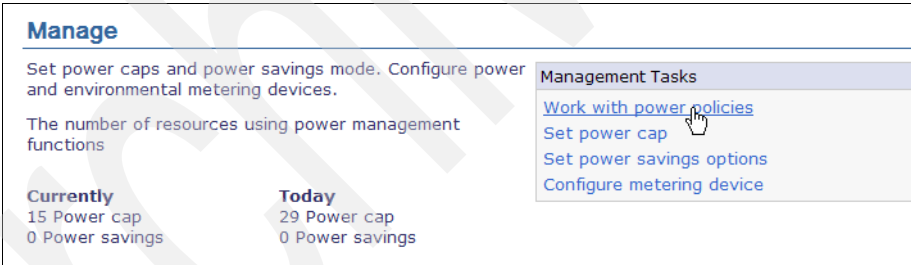

Figure 7-53 Applying a policy - 1
1. On the Active Energy Manager home page, click **Work with power policies** in the Manage section (Figure 7-53).